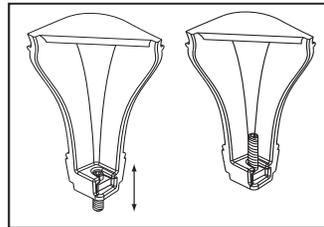
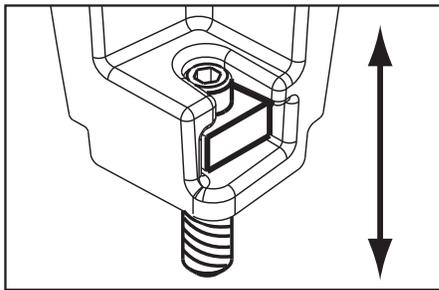

Figure 14.2
Figure 14.3 - Bolt fully extended
2. Slide assembled nuts and bolts into slots on legs with the nuts on the bottom. **Figure 14.2.** Use a 5/32 Allen wrench to adjust legs up and down to desired level. **Figure 14.3.**